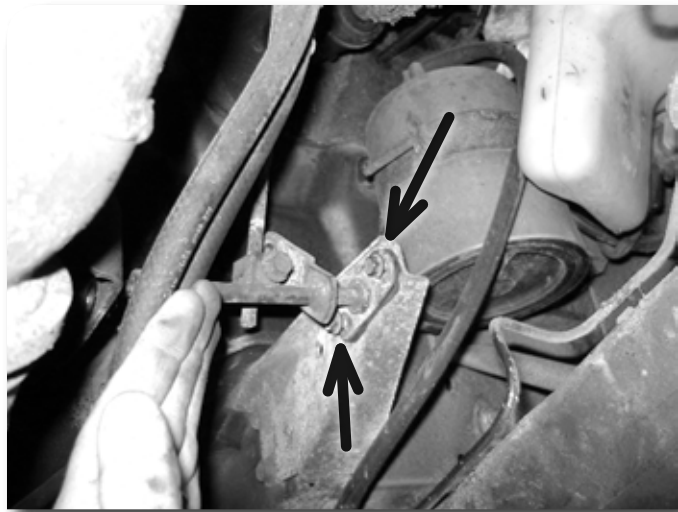

Figure 4
6. Locate the shift linkage that runs down from the steering column in the engine compartment, near the firewall. The linkage runs into a bell crank and pivot bracket. Remove the two small bolts mounting the pivot bushing to the bracket. **Figure 4** Save hardware.